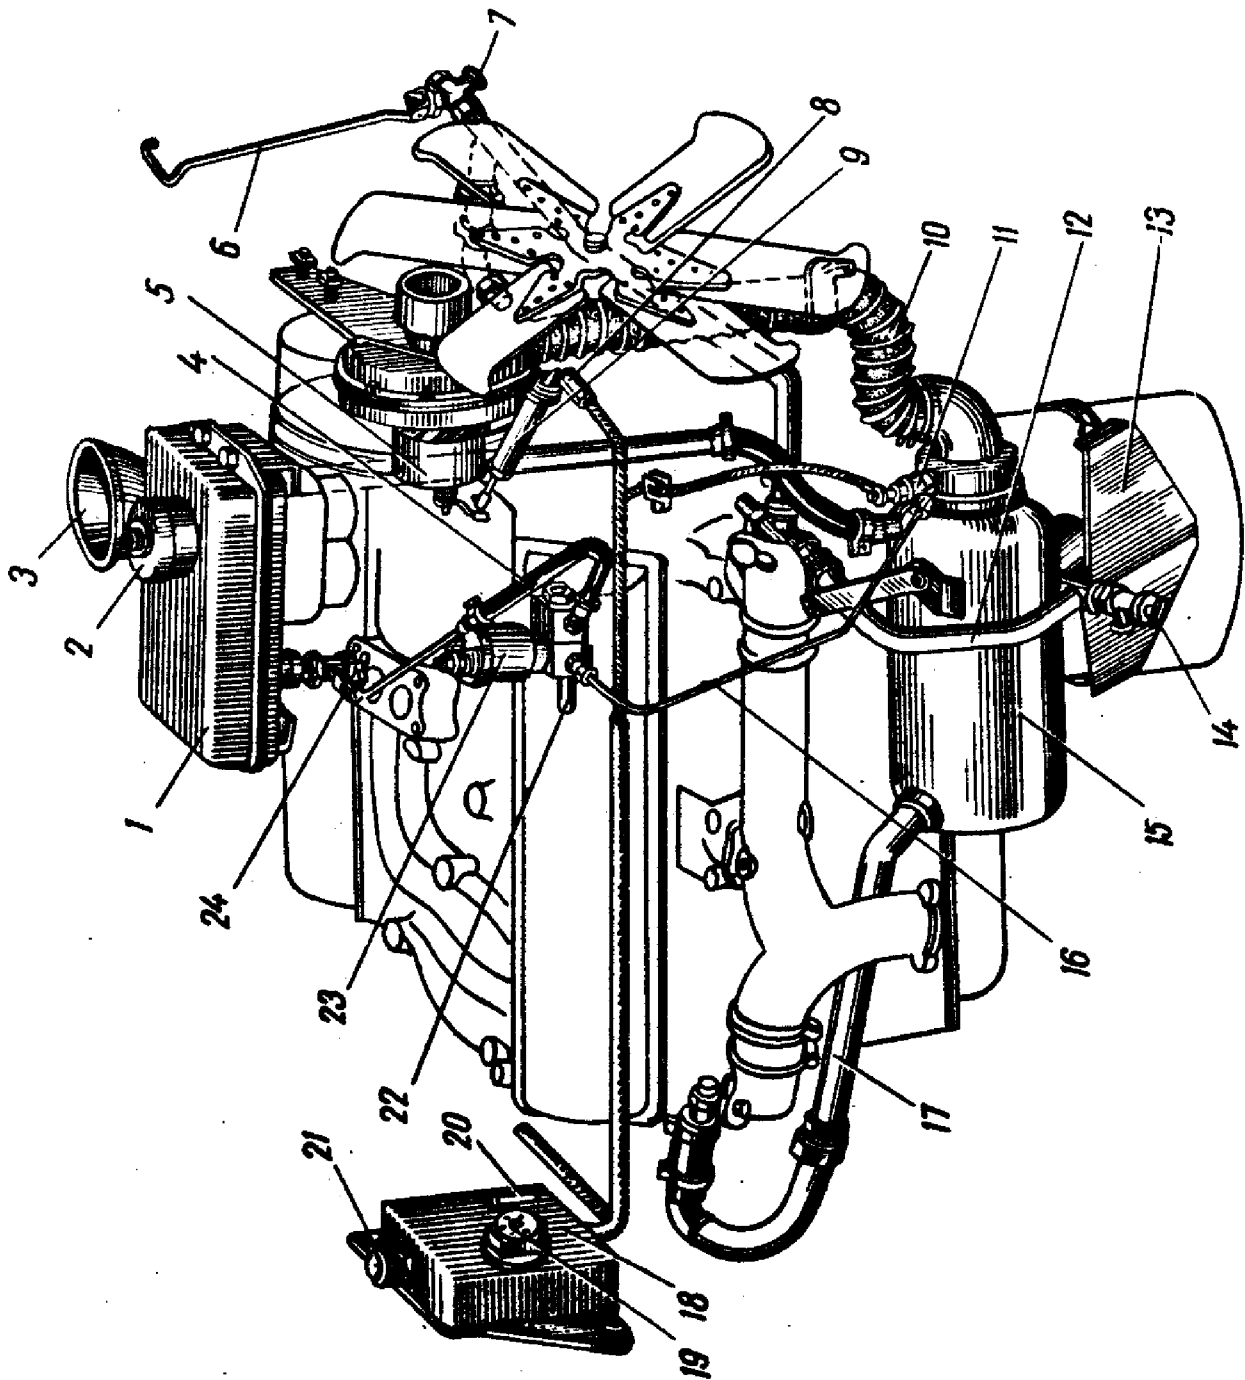

FIG. 44. PREHEATER
5. Check tank 1 (Fig.44) for presence of fuel and fill, if needed (capacity of tank is 2 litres).